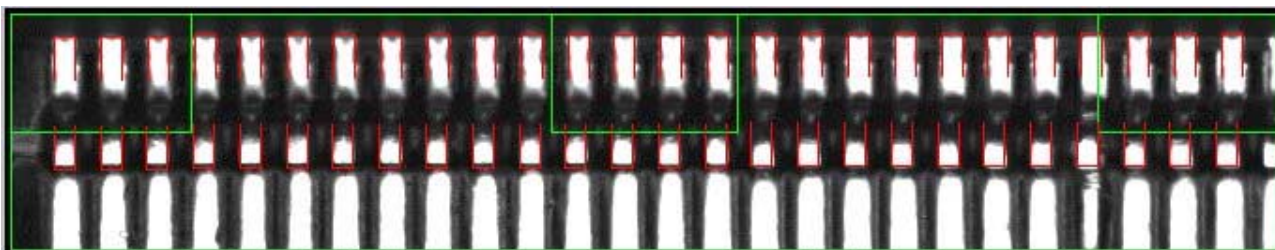

Figure 2-7 Length of Red Box Encompassing the Bright Top and Bottom Parts of Leads
6. The length of the red box should encompass the bright parts of the leads at the top and at the bottom as shown in Figure 2-7: